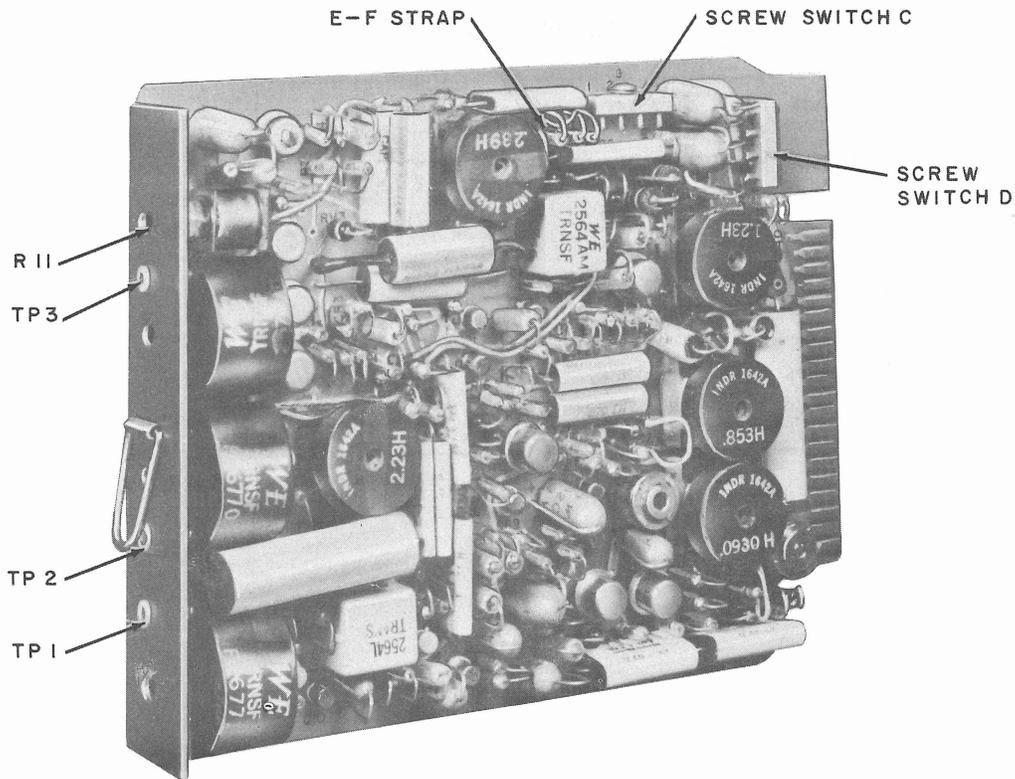

Fig. 6—Data Set 108A—Location of Test Points and Switches
**4.01** Screw switch D (Fig. 6) on Data Set 108A-type will have been closed to provide maximum sensitivity (maximum gain of the receive buffer amplifier) during manufacturing tests. The gain of the amplifier may be reduced in two 4-dB steps and should be adjusted to fit the requirements of
**4.02** Strapping of the hybrid is determined by the loop impedance of the facility. The loop impedance should be shown on the service order and/or circuit layout record card. Table B shows typical loop impedance if the cable makeup is known. Select the proper facility makeup under the TYPICAL LOOP FACILITY column. Find the typical loop impedance at 2125 Hz corresponding to the Data Set 108A operation. When the impedance is found, refer to Table C for the strapping required for the optimum trans-hybrid balance. Set screw switch C and strap E-F as indicated in the table. Refer to Fig. 6 for the location of screw switches and the strap.
**4.04** Connect terminals + and - of portable station test set TTS-28 to TP1 and TP2 of the data set (Fig. 6). Set FUNCTION switch of TTS-28 to DBM 900Ω TERM 0 position.